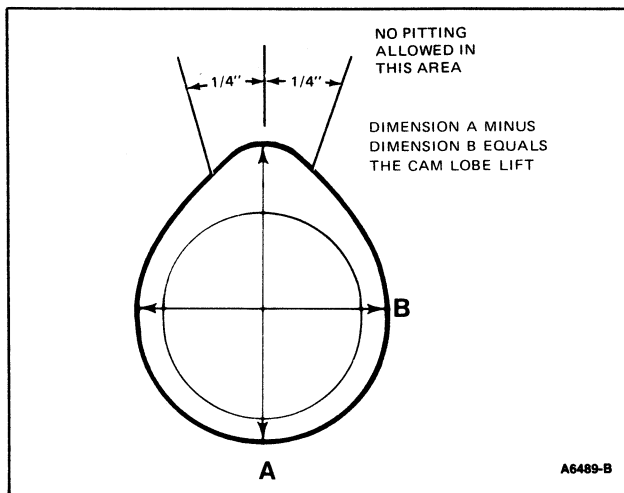

FIG. 20 Camshaft Lobe Lift Measurement — Camshaft Removed
1. Measure distance between the major (A-A) and minor (B-B) diameters of each cam lobe with a Vernier caliper and record the readings, Figure 20. The difference in the readings on each cam diameter is the lobe lift.